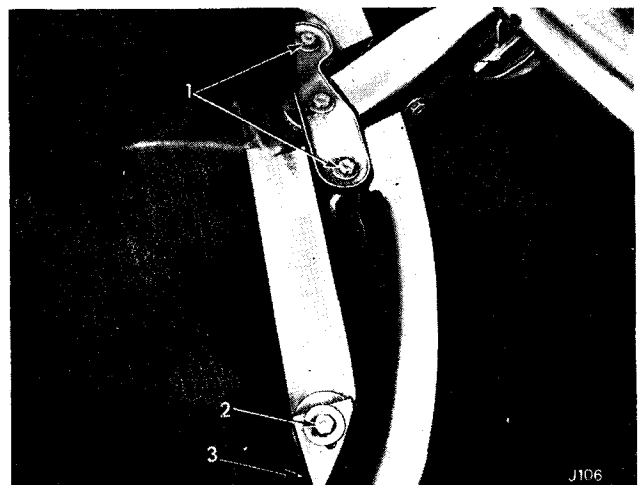

Fig. 57. Front valance attachment
Take out bolts (1), (2) and (3) (Fig. 57), from each side of the radiator and pull the valance forward and lower it clear of the body.